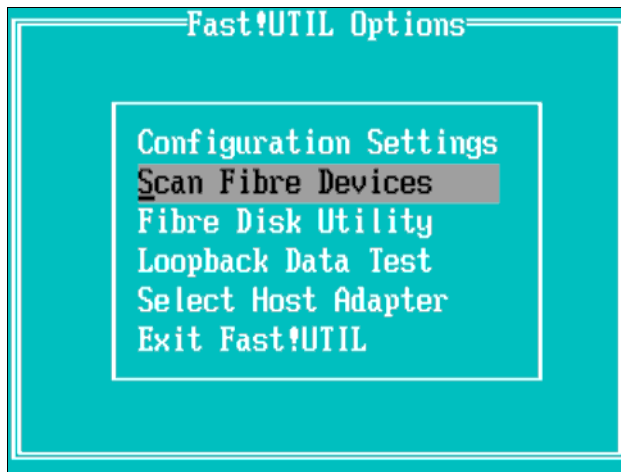

Figure 2-20 Scan for Fibre Devices
7. After the changes have been saved, press **Scan Fibre Devices**, as shown in Figure 2-20. It will scan the Fibre Channel path for the DS5000 storage subsystem. It will present the HBA to the storage subsystem so that it will show up in the storage configuration.